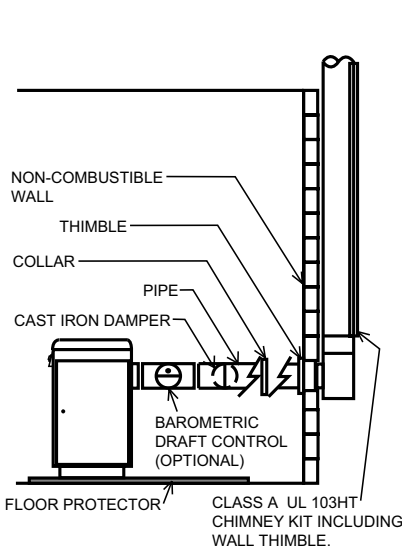

Fig. 5
1. The chimney connection should be as possible. The heater must have its own chimney. Do not connect this unit to a chimney flue, serving another appliance. If there is no chimney near where you wish to place the heater, you can use a UL 103HT Residential Type and Building Heating Appliance Chimney (Fig. 5 &6).